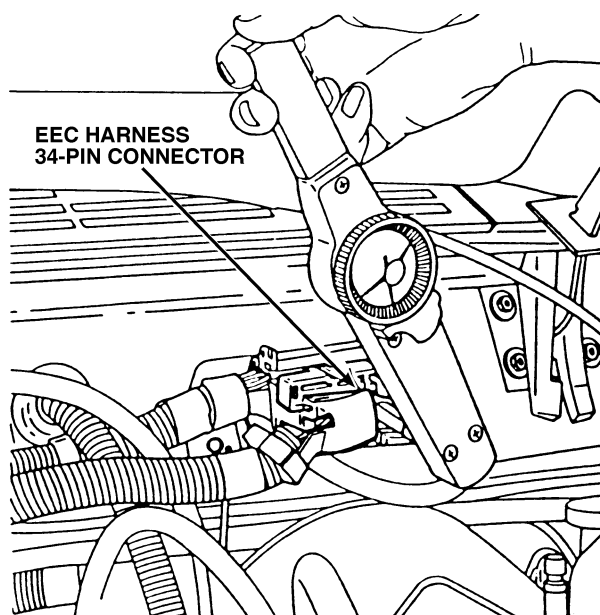

Figure 13.
29. Tighten the EEC harness 34-pin connector located above the brake booster to 70 in-lb (8 Nm) of torque (Figure 13).